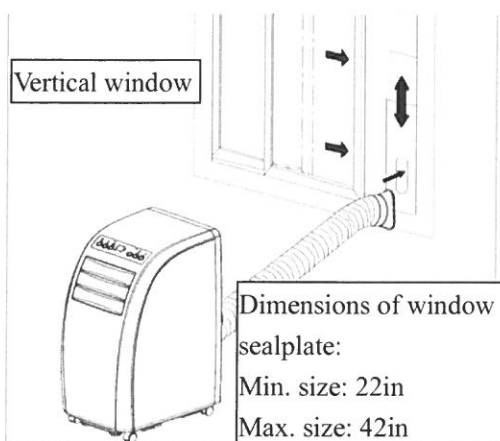
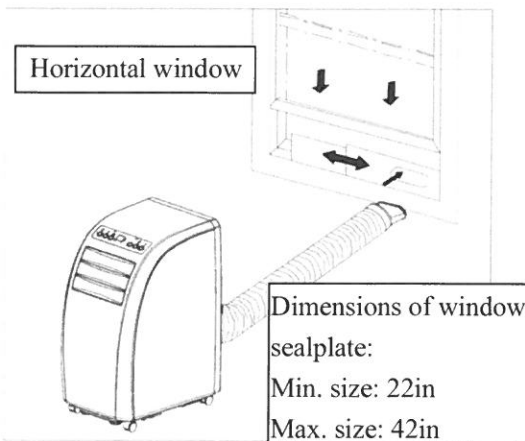

Fig.8
Fig.9
- The design of the window sealplate was made to be universal and should work with most standard horizontal or vertical windows. (the installation methods are shown in Fig.8 and Fig.9)